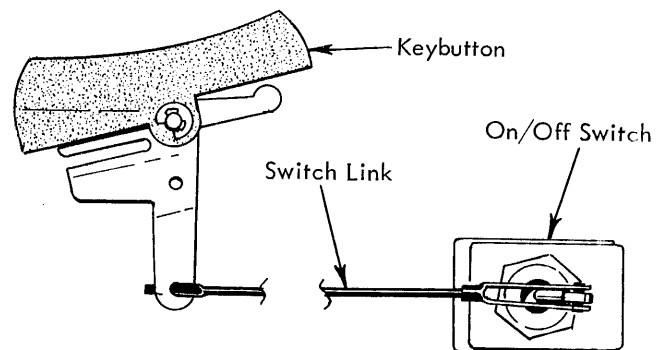

FIGURE 50. On/Off Switch
- Switch Link - With the On/Off Switch in the off position adjust the switch link so that the On/Off keybutton matches the slope of the keyboard (Fig. 50).